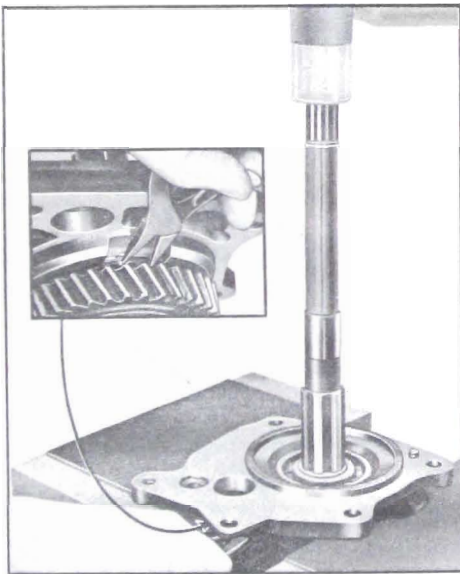

Figure 4-26—Removing Rear Bearing Retainer
19. Spread rear bearing retainer snap ring and press mainshaft out of retainer. See Figure 4-26.
20. Remove the mainshaft rear snap ring. Support first and second speed clutch assembly as shown in Figure 4-26, and press on rear of mainshaft to remove shaft from rear bearing, first speed gear, and synchromesh ring first and second speed clutch sliding sleeve and first speed gear bushing.